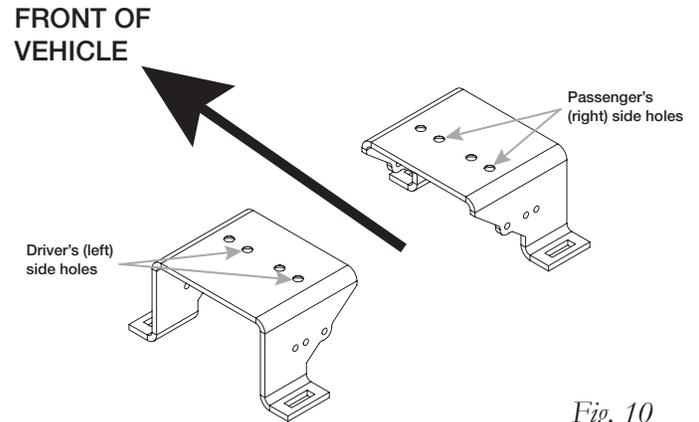

Fig. 10
1. To determine which holes in the lower brackets (B) to use for installing the cradle to, set them next to each other with the angled sections pointing toward each other (Fig. 10).